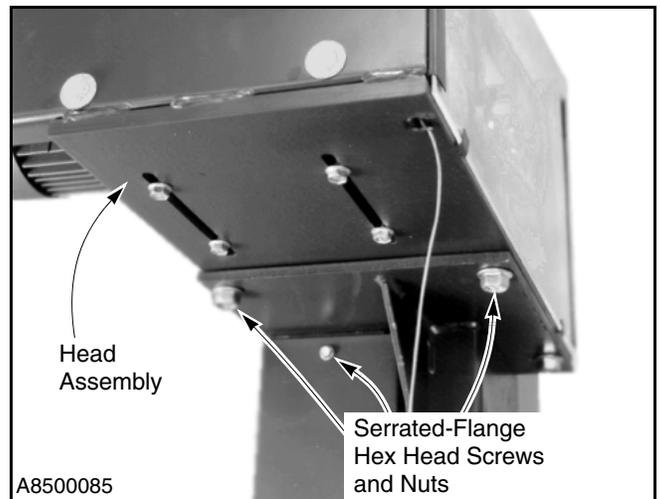

Figure 16
6. Attach each side column to the head assembly using three 1/2-12 x 1 3/4-in. serrated hex head cap screws and nuts. The screws and nuts are located in the small parts carton. (See Figure 16.)